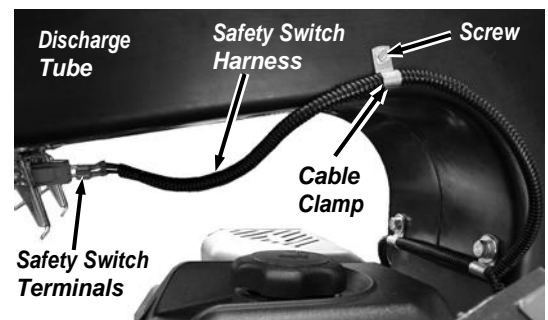

Figure 11
10. Connect the Safety Harness onto the Terminals of the Bag Safety Switch (**Figure 11**) and secure the Cable Clamp to the hole in the side of the Discharge Tube with the Self Tapping Screw using a 5/16" Wrench.